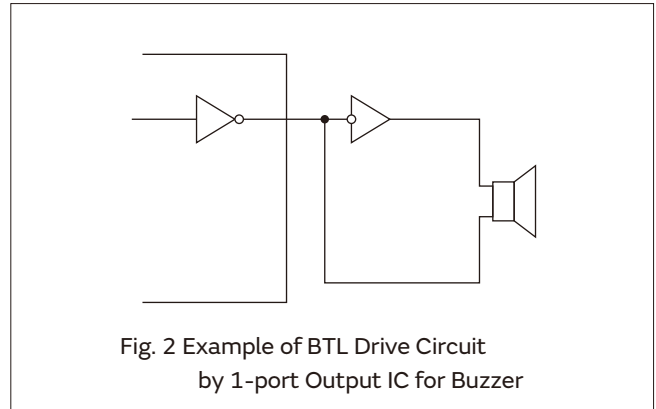

Fig. 2 Example of BTL Drive Circuit by 1-port Output IC for Buzzer
- (2) In a case that is driven by IC directly like as Fig. 2, input voltage of Piezoelectric sound components should be twice as high because of the BTL (Bridge Tied Load) drive circuit, which includes an inverter.
When the piezoelectric diaphragm oscillates freely in air, the node does not move as shown in Fig. 1. With this point held with a measuring terminal, the resonant frequency ( $f_0$ ) and resonant impedance ( $R_0$ ) are measured in the constant-current circuit as shown in Fig. 2.